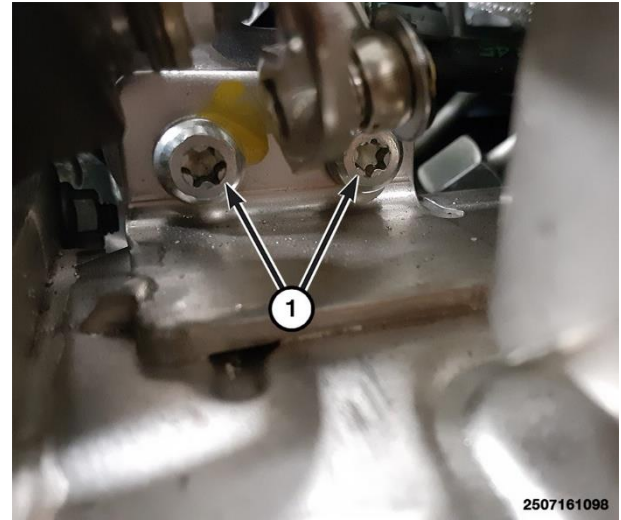

Figure 136 – Vacuum Actuator Screws
75. Remove the vacuum actuator with heat shield screws (1) and position aside the vacuum actuator (Figure 136).
98. Install the vacuum actuator with heat shield screws (1) (Figure 136).